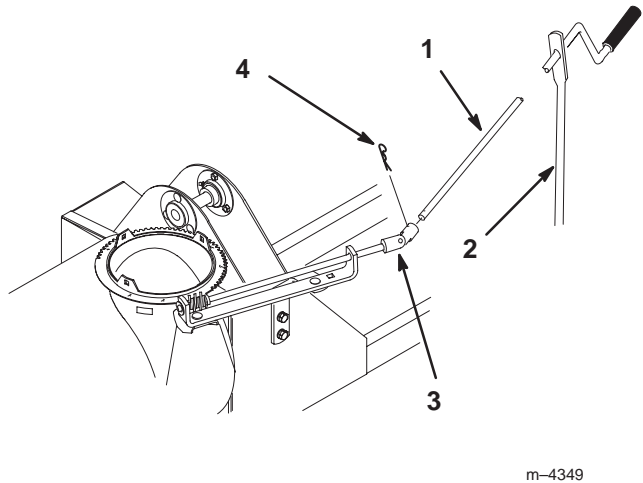

Figure 24
- 16.** Slide the chute control rod through the hole in the end of the crank support and connect the end of the chute control rod to the universal joint on the snowthrower with a medium hairpin cotter (Fig. 24).